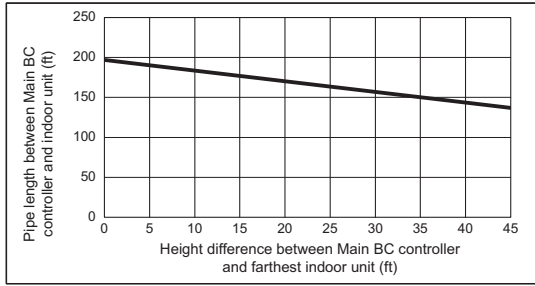

Fig. 2
- *2. Details refer to Fig. 2.
- *7. When the piping length or the vertical separation exceeds the limit specified in Fig. 2, connect a sub BC to the system. The restriction for a system with a sub BC connection is shown in Fig. 3. When a given system configuration falls within the shaded area in Fig. 3, increase the size of the high-pressure pipe and the liquid pipe between the main BC and sub BC by one size. When using P12, P15, P18, P36, or P48 model of indoor units, increase the size of the liquid branch pipe between the sub BC and indoor unit by one size. When using indoor models P54 or larger, the restrictions shown in Fig. 2 cannot be exceeded.
*7. When the piping length or the vertical separation exceeds the limit specified in Fig. 2, connect a sub BC to the system.
The restriction for a system with a sub BC connection is shown in Fig. 3. When a given system configuration falls within the shaded area in Fig. 3, increase the size of the high-pressure pipe and the liquid pipe between the main BC and sub BC by one size. The maximum liquid branch pipe diameter is $\phi 19.05$. If a given system already has a $\phi 19.05$ -pipe between the main BC and sub BC, there is no need to increase the pipe size. When using P12, P15, P18, P36, or P48 model of indoor units, increase the size of the liquid branch pipe between the sub BC and indoor unit by one size. When using indoor models P54 or larger, the restrictions shown in Fig. 2 cannot be exceeded.